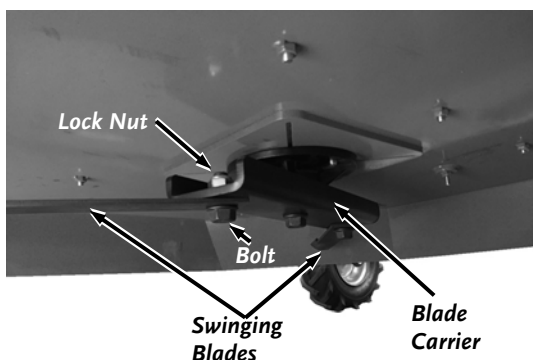

Figure 37
3. Remove the Bolt and Lock Nut securing the Swinging Blade to the Blade Carrier using two 1-1/8" Wrenches and remove the Blade. (**Figure 37**).